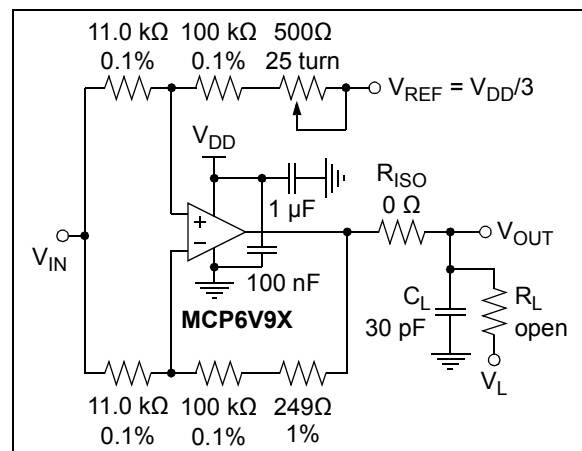

FIGURE 1-6: Test Circuit for Dynamic Input Behavior.
- Note 1:** These parameters were characterized using the circuit in Figure 1-6. In Figures 2-40 and 2-41, there is an IMD tone at DC, a residual tone at 1 kHz and other IMD tones and clock tones. IMD is Referred to Input (RTI).
The circuit in Figure 1-6 tests the input's dynamic behavior (i.e., IMD, t_{STR} , t_{STL} and t_{ODR}). The potentiometer balances the resistor network (V_{OUT} should equal V_{REF} at DC). The op amp's common-mode input voltage is $V_{CM} = V_{IN}/2$. The error at the input (V_{ERR}) appears at V_{OUT} with a noise gain of 10 V/V.